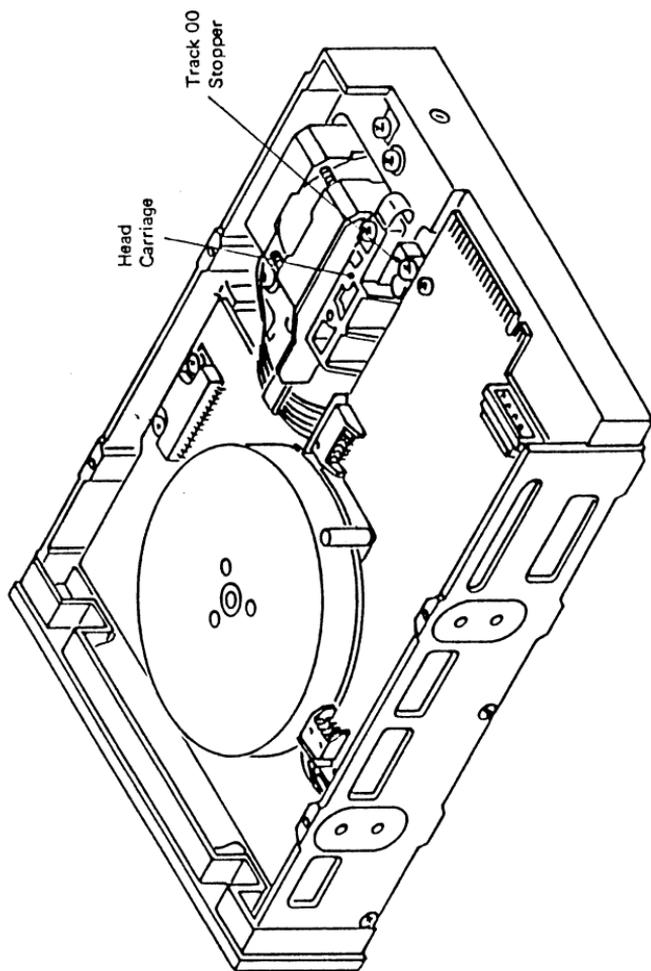

Figure 5.10 Track 00 sensor adjustment (stopper)
- Loosen the fixing screw of the track 00 stopper (see Figure 5.10).
Run Test A TRACK SEEK and position the head to track 00. Adjust the track 00 stopper to give a clearance of 0.25 mm  $\pm$  0.15 mm (0.01 in.  $\pm$  0.006 in.) between the stopper and the head carriage (see Figure 5.10). Tighten the stopper fixing screw and apply a small quantity of locking paint to the screw head.